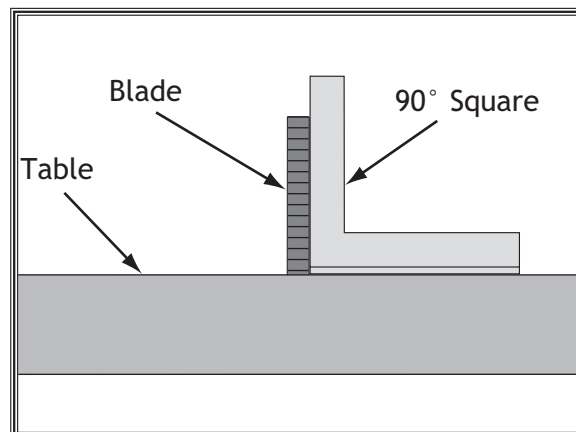

Figure 88. Checking the blade at 90°.
3. Place a 90° square against the table and blade so it contacts the blade evenly from bottom to top, as shown in **Figure 88**. Make sure the square is not contacting a blade tooth.
6. Place a square against the blade, as illustrated in **Figure 88** on the previous page, then adjust the blade until it is perfectly square to the table.